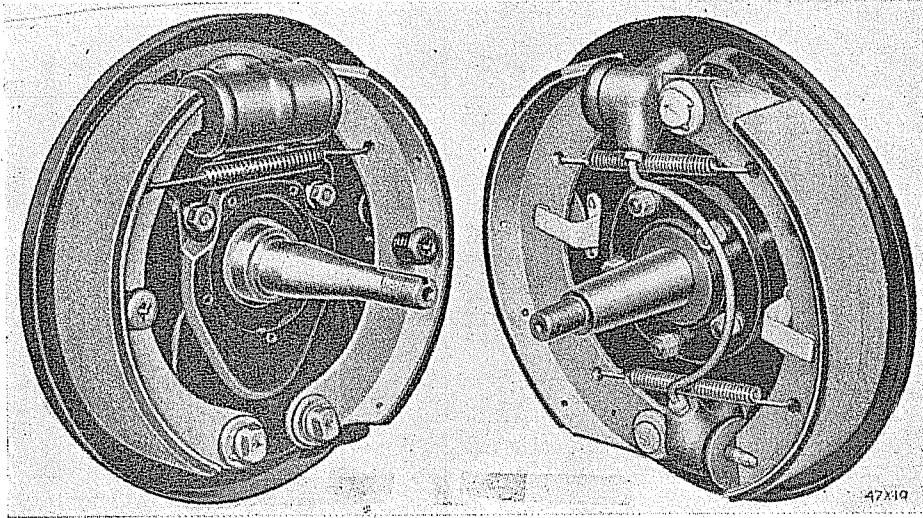

Fig. 1—Typical Front and Rear Brake Assemblies (Model 1-08A Only).
- (a) In the single piston brakes (Figure 1) each shoe is actuated by its own individual cylinder with a single piston. One cylinder is at the top of the brake assembly and operates the front shoe, while the other cylinder is at the bottom and operates the rear shoe. Each cylinder is mounted by means of the anchor pin for the opposite shoe. That is the top cylinder which operates the front shoe is attached by the same pin that serves as an anchor for the rear shoe. The rear shoe is actuated by the bottom cylinder and pivots on the top anchor. The single piston brakes are used at the rear wheels on the 1-08A trucks.